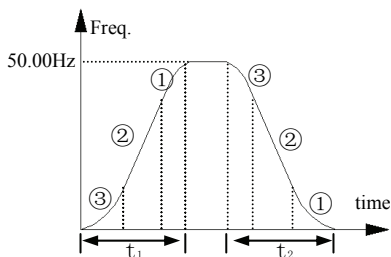

Fig. 7-2 S curve acc/dece
1: S curve acc/dece mode. Output frequency raise or decline as the S curve: as fig.7-2.
S curve starts interval time as fig.7-2③, output frequency changed slope increase slowly from zero.
S curve up interval time as fig.7-2②, output frequency changed slope is constant.
S curve ends interval time as fig.7-2①, output frequency changed slope decrease slowly to zero.